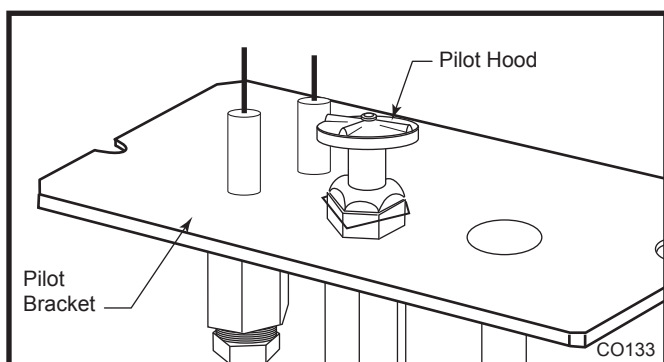

Fig. 54 Remove pilot hood.
1. Remove pilot hood by lifting up. (Fig. 54)